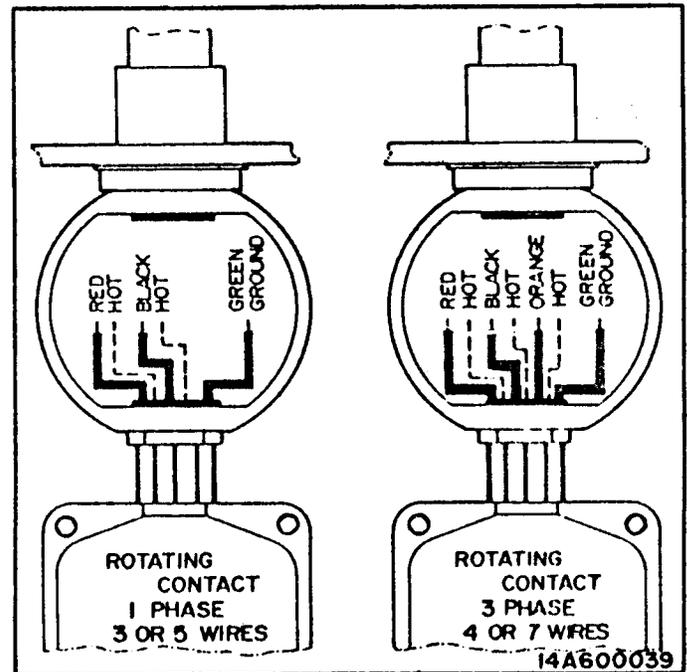

FIG. 24 - WIRING ROTATING CONTACT
1. Liquid tite elbow and drip loop provided by electrician. Have electrician bring electrical service into the cast junction box in center of bin. Wire into the leads of rotating contact. Fig. 24.